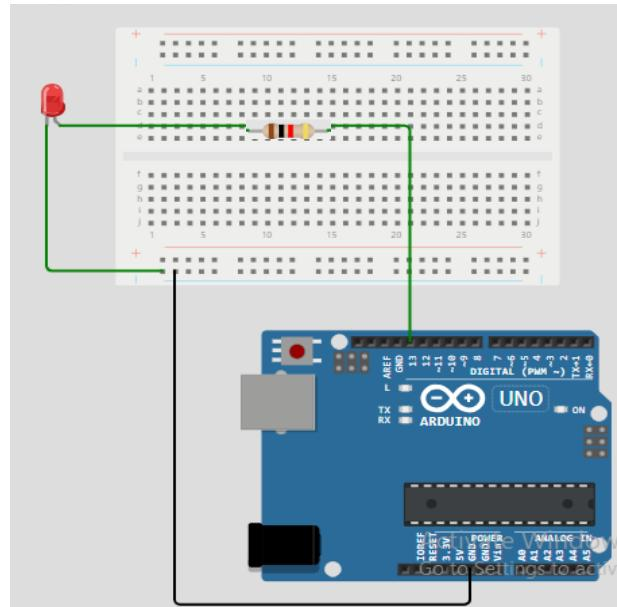

Figure 6.7
- a) Design the circuit diagram given in figure 6.7 in Wokwi using the components listed below.